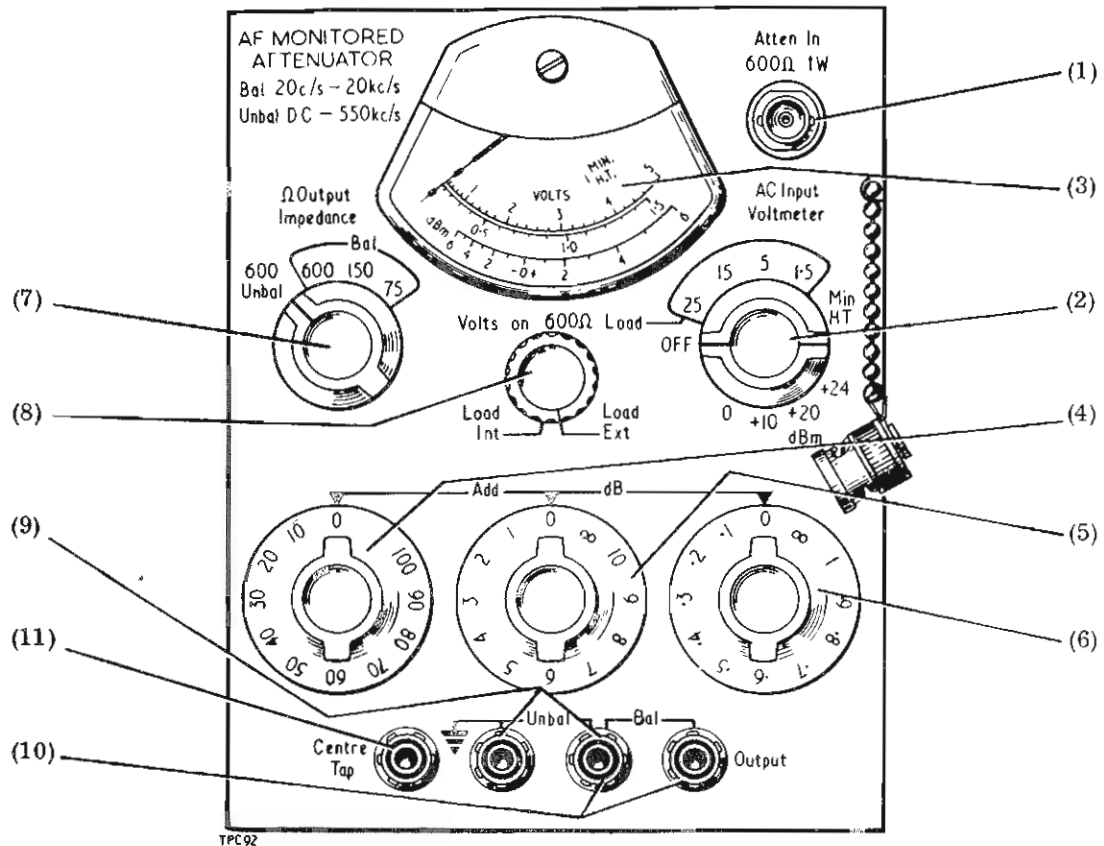

Fig. 2 Controls and connectors on front panel of monitored attenuator
3. The controls and connectors on the front panel of the monitored attenuator (Fig. 2) are as follows :-